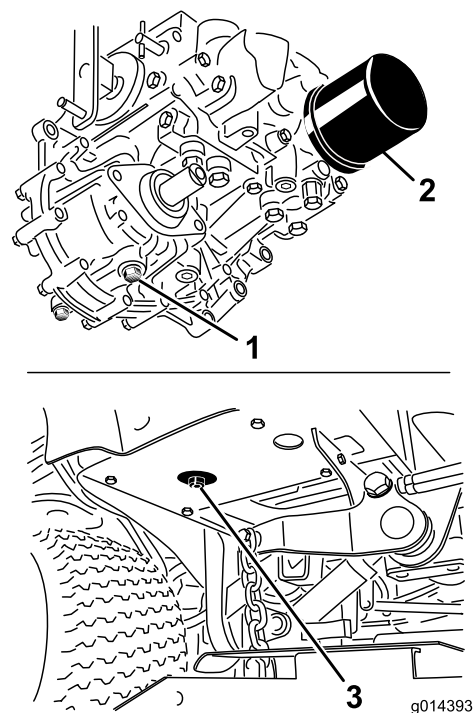

Figure 53
3. Place a large pan under the hydraulic reservoir and transmission case and remove the plugs, draining all of the hydraulic fluid (Figure 53).
4. Clean the area around the hydraulic oil filter and remove it (Figure 53).